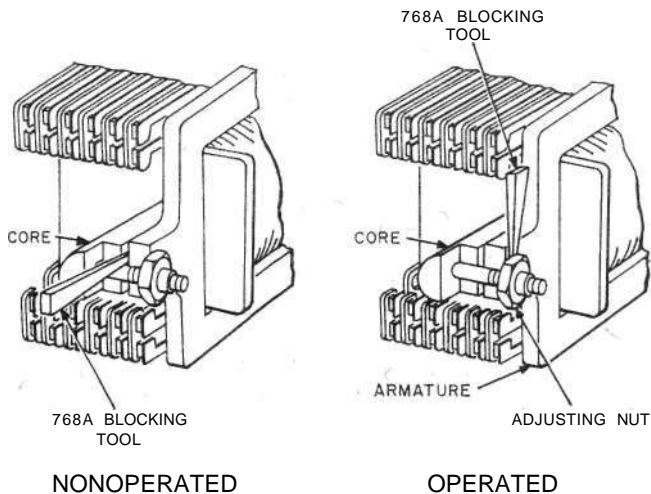

Fig. 7—Blocking U-, Y-, UA-, UB-, 271-, and 282-Type Relays
3.05 U-, Y-, UA-, UB-, 271-, and 282-Type Relays Not Equipped With Attachable Separators: Fig. 7—Block relays nonoperated
by inserting the 768A blocking tool between the core and the armature. Insert the tool, being careful not to push off the armature stop discs. Block relays operated by applying the blocking tool between the armature and adjusting nut as shown in Fig. 7.